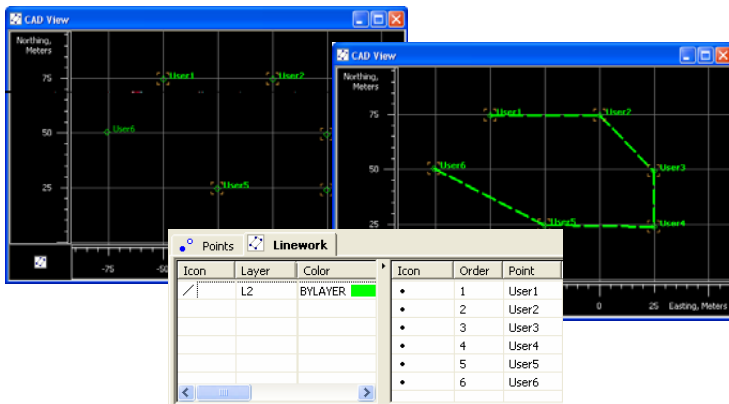

Figure 5-32. Connecting of Selected Points to Line
- Topcon Tools allows connecting selected points into the line. Click the **Add Line** button in the Toolbar and select the desired points in the CAD View or *Points* tab. Then the line will be created that connects the points in the order of point numbers/names (Figure 5-32 on page 5-27).